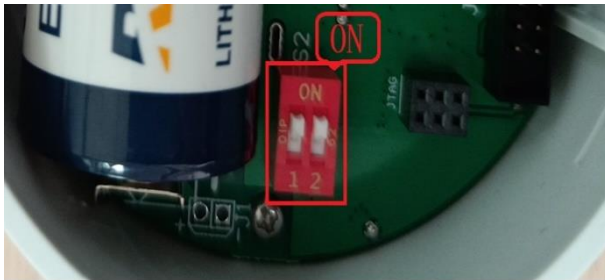

Figure 1
1. Open the back cover, and the power supply of the device (the 2-bit dial-code switch is dial-ed to "ON") is shown in the red dial-code in Figure 1. Scan the code with the mini program in wechat to view the data;